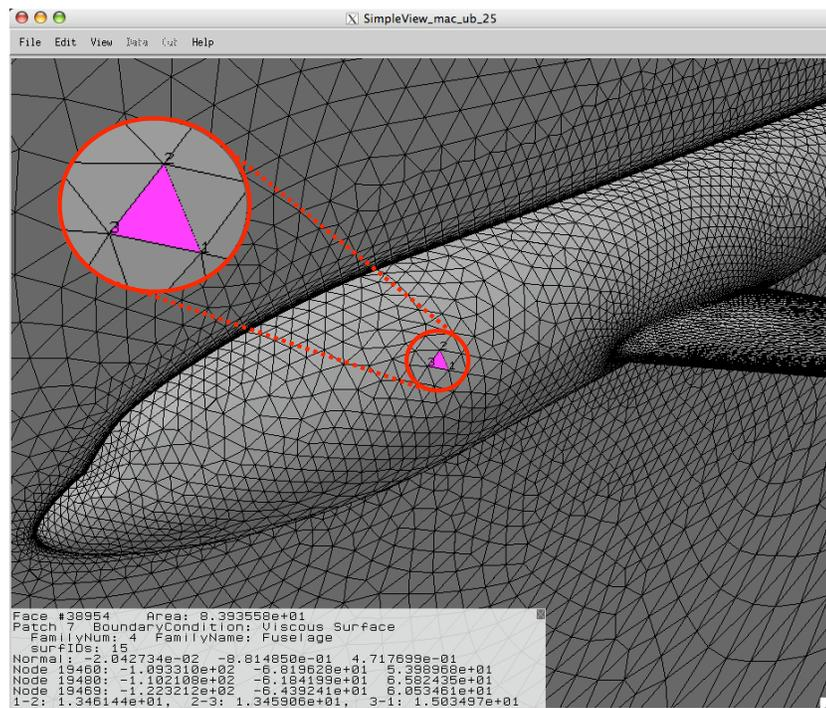

Figure 2.2.3 Surface face selection, with a close-up view of the selected face
SimpleView, you can select any face on the surface mesh (or the current front) by placing your cursor over the face and double clicking the left mouse button; this highlights the face under the cursor and sets the center of rotation to be on the center of the selected face. Selecting the “Select Face” option from the “Select” submenu of the “Edit” panel opens the Face Select dialog. Enter the number of a face into the text field and click OK to set the center of rotation to that face. The “Select Node” option works the same way, only it selects a node rather than a face. All selected objects are displayed in the Select Color (purple by default; the color can be changed from the Color submenu, found in the “View” panel). When a surface mesh face is selected, information about that face is shown in a box that appears in the lower left corner of the **SimpleView** screen ; this is shown in Figure 2.2.3.
- the edge lengths of each side of the selected face; these are listed for edges “1-2,” “2-3” and “3-1,” corresponding to the edges shown on the face (see the inset in Figure 2.2.3)